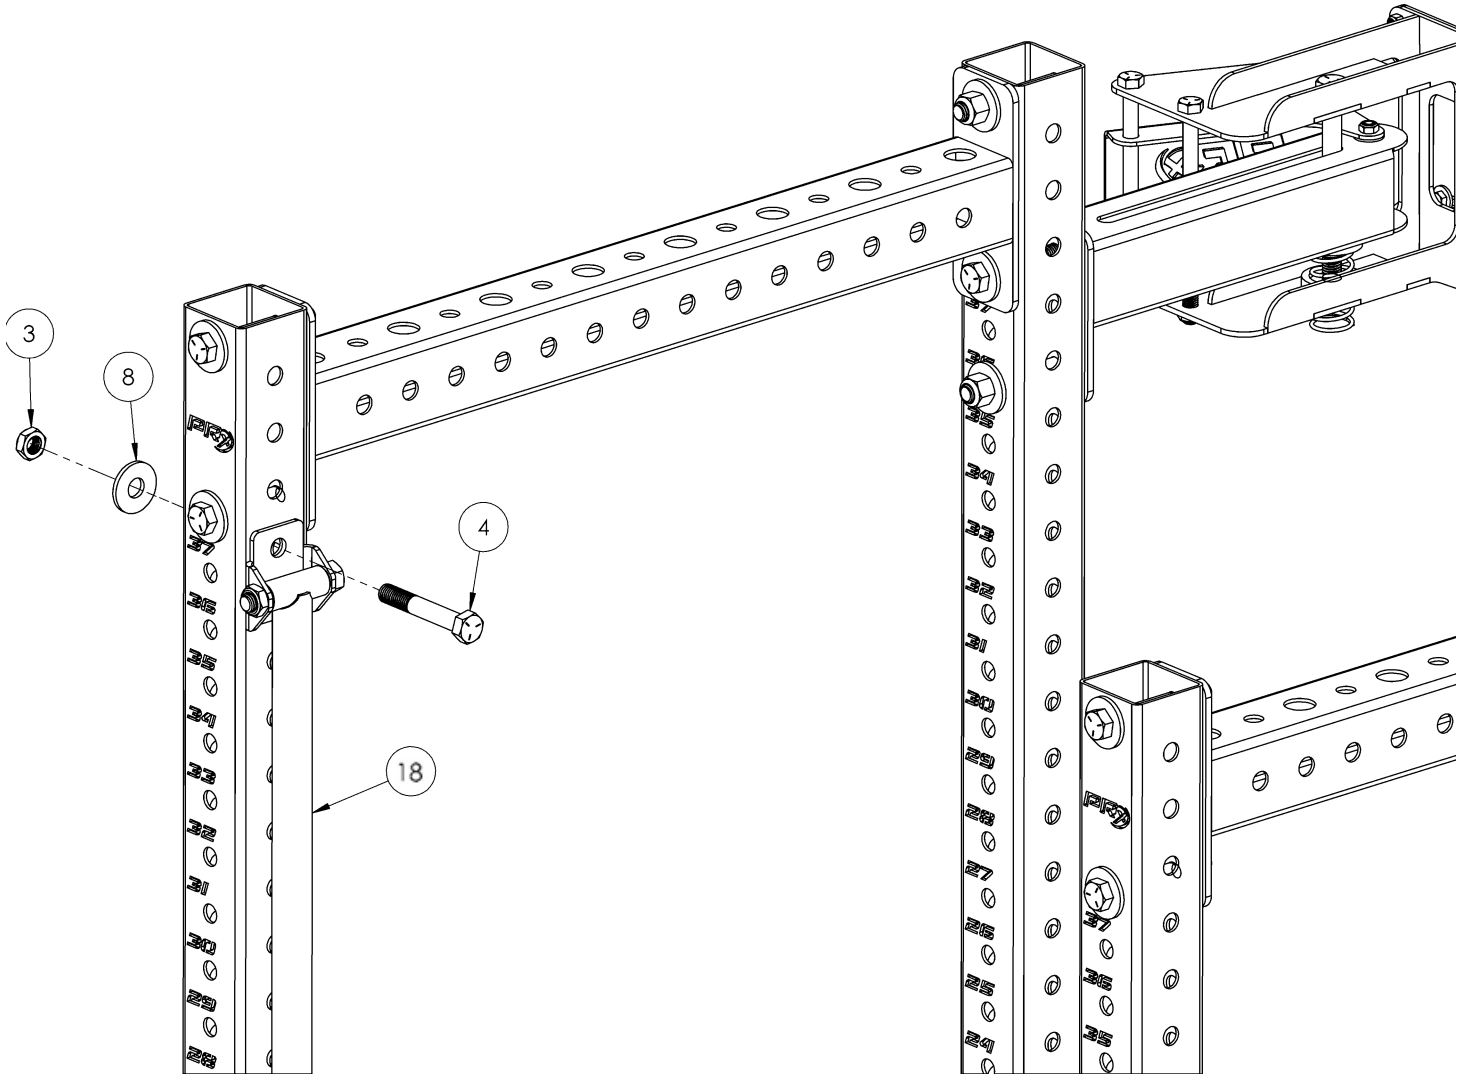

Figure 7: Attaching the pull-up bar to the rack
1. With the 15/16" open end wrench and 15/16" socket wrench, attach the pull-up bar (18) to the rack using a 4" x 5/8" Hex bolt (4), a 5/8" flat washer (8), and a 5/8" thin locknut (3) below the crossmember bolt (**Figure 7**).